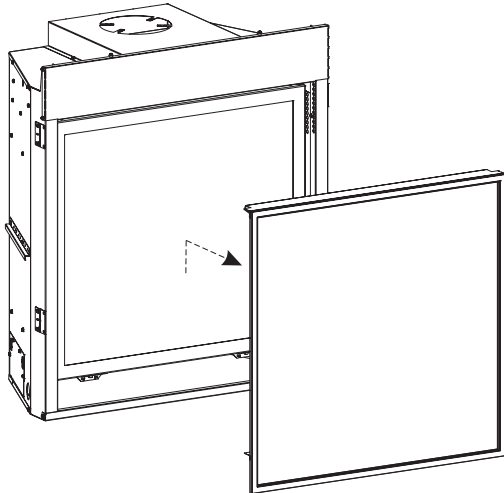

Figure 1
1. Turn off power. Lift barrier screen and pull away from the unit. See Figure 1.
21. Replace barrier screen removed in step 1. **See Figure 1.**